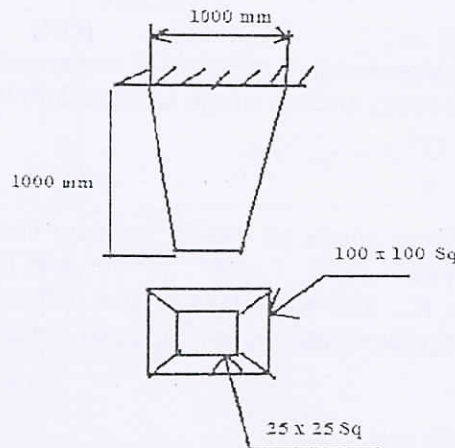

Fig 11
11. For the tapered steel bar shown in Fig 11, subjected to its own self weight, determine the deflection at the free end using any weighted residual technique or the Ritz technique. Assume $E=200\text{GPa}$ and $\gamma=77\text{kN/m}^2$